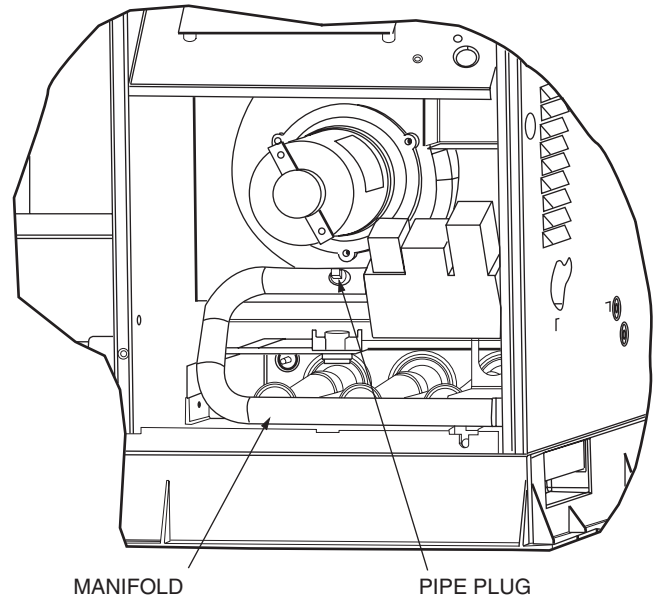

Fig. 13—Burner Assembly
2. Remove pipe plug on manifold (See Fig. 13) and connect manometer. Turn on gas supply to unit.
2. Remove pipe plug on manifold and connect manometer (See Fig. 13).